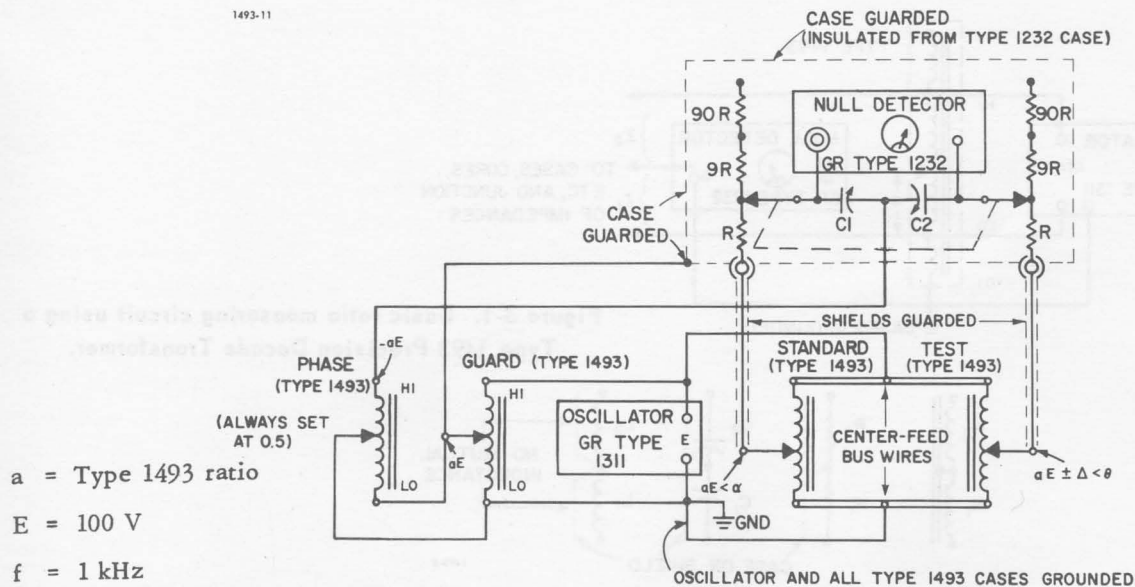

Figure 3-3. Ratio-calibration circuit using a Type 1232 Tuned Amplifier and Null Detector, a Type 1311 Oscillator, and Type 1493 Precision Decade Transformers.
When calibration-quality measurements are required, the circuit of Figure 3-3 permits the highest degree of accuracy and repeatability.
A precision comparison between the standard unit and a test unit can be made if the phase difference between the two instruments is carefully balanced out. In Figure 3-3, the phase instrument applies a voltage through a differential capacitor (C_1 and C_2) to the standard and test instruments. A null is obtained by adjusting the differential capacitor, and the resistors (R) if necessary. The phase instrument is